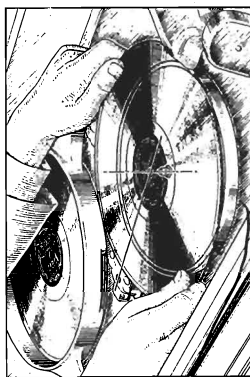

Figure 11—Method of checking transfer lever lateral adjustment
- (d) Improper Position of Record Transfer Lever. When a ten-inch record is placed so that its edge touches both pins on the record transfer lever, a line drawn from the center of the hole of the lever to the center of the record hole should pass directly over the center of the spindle. See Figure 11. The two record transfer lever mounting screws can be loosened and the lever shifted until this condition exists. Also when a record is on the turntable it should just clear this lever. Unless this adjustment is properly made the record may not center properly over the spindle.